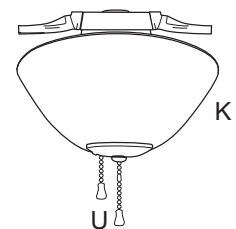

Fig. 11
11. Pull chain extensions (U) supplied in one of the hardware packs or custom pull chain extensions may be attached to fan and light pull chains. [Fig. 11]